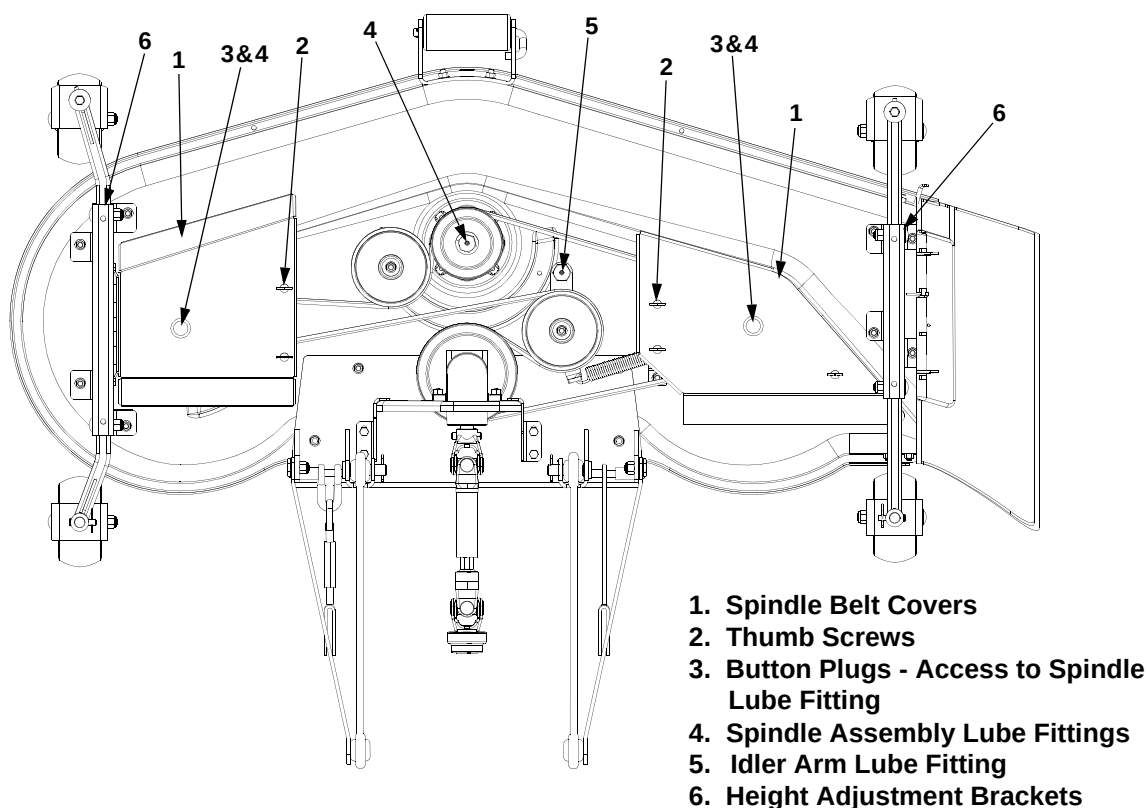
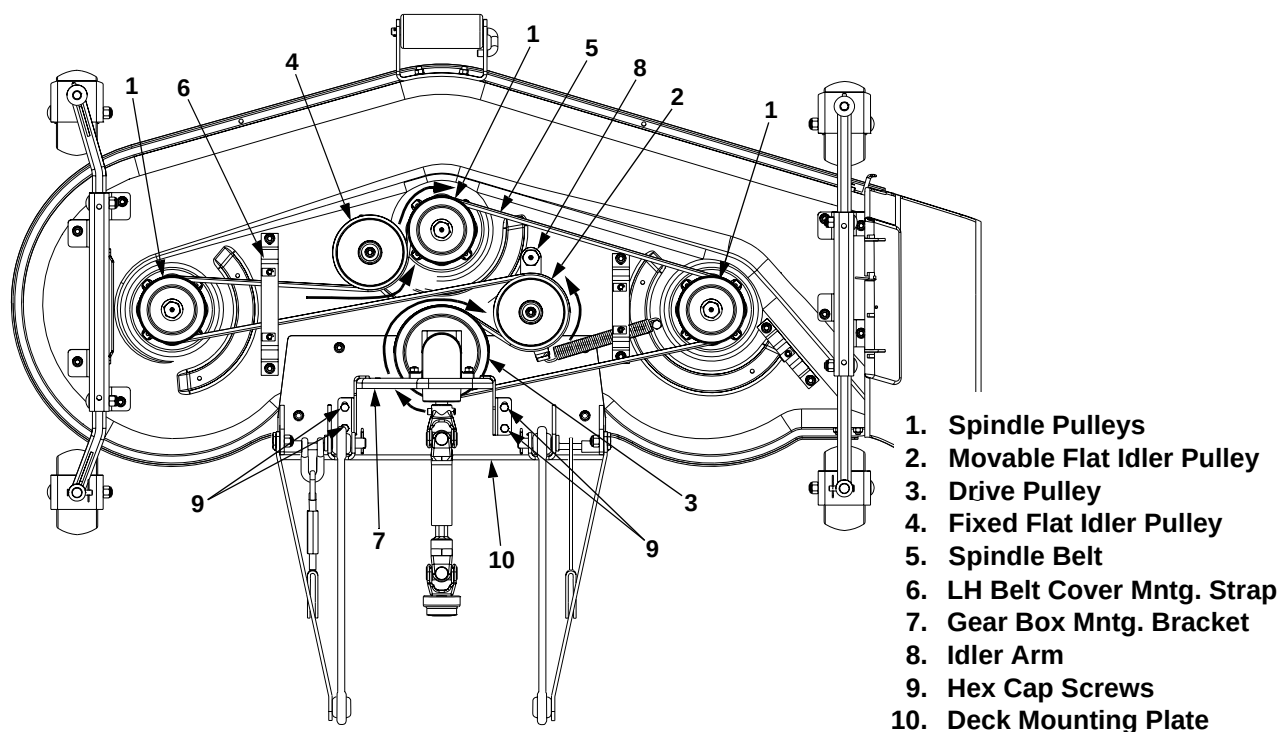

Figure 63
Figure 64
Once a month remove the thumb screws and belt covers (Refer to Figure 63) to remove any accumulation of grass clippings from around the spindle pulleys and V-belt. Clean more often when mowing tall, dry grass.
After every 10 hours of operation and/or before putting the deck into winter storage, lubricate the spindle assemblies and the spindle belt idler arm with 251H EP grease or an equivalent No. 2 multipurpose lithium grease. The lube fitting for the outer spindles can be accessed by removing the button plugs in the belt covers. Use grease liberally. Excess grease will be expelled from the inverted upper seals of the spindle assemblies. Listen for the muffled crackling noise of grease being expelled through the seal to indicate the spindle assembly is fully greased. Refer to Figure 63.
A worn spindle belt will affect the quality of cut from the mower deck and should be replaced. Referring to Figure 63 and Figure 64, replace the spindle belt as follows:
- Remove the two thumb screws securing the LH belt cover to the deck. Slide the belt cover tabs from the slots of the deck height adjustment brackets to remove the cover (See Figure 63).
WARNING: The idler arm and movable flat idler pulley (Refer to Figure 64) are under spring tension. To prevent possible injury, use caution when handling the idler pulley.
- Push the movable flat idler pulley (2, Figure 64) toward the left side of the deck to relieve tension from the belt. Slip the spindle belt off the movable flat idler pulley, then carefully release the flat idler pulley.
- Slide the belt off and over the LH spindle pulley, then pull the belt under the LH belt cover mounting strap. Refer to Figure 64.
- Slip the belt off the fixed flat idler pulley, center spindle pulley, and RH spindle pulley (Refer to Figure 64).
- Remove the four hex cap screws and hex flange lock nuts securing the gear box mounting bracket to the deck mounting plate. Refer to Figure 64.
- Lift the gear box/mounting bracket assembly and slip the belt off and underneath the drive pulley. Refer to Figure 64.
3. Route the **backside** of the belt around the movable flat idler pulley. See Figure 64.
4. Loop the belt and slide it underneath the LH belt cover mounting strap. See Figure 64.